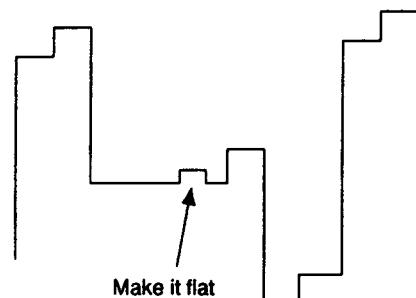

Fig. 5-17
- 5) Adjust [PHASE NTSC 358 NOR] so that the burst section of the output waveform will be straight. (Fig.5-17)
- 2) Make adjustment in the same way as 10-1. shown above by means of [PHASE NTSC 443 ACC OFF]. (Fig.5-17)